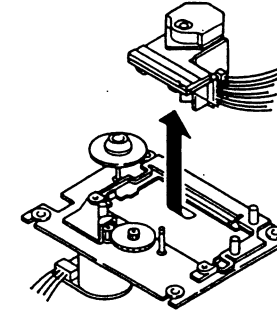

Figure 6
5. Remove the pickup (See Figure 6).